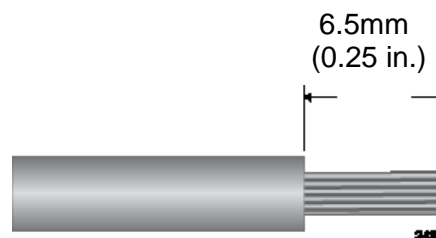

Figure 36. Strip Power or Alarm Wire
1. Strip 6.5mm (0.25 in.) of insulation from the ends of each of power and the alarm wires with a wire insulator stripper. Refer to Figure 36.